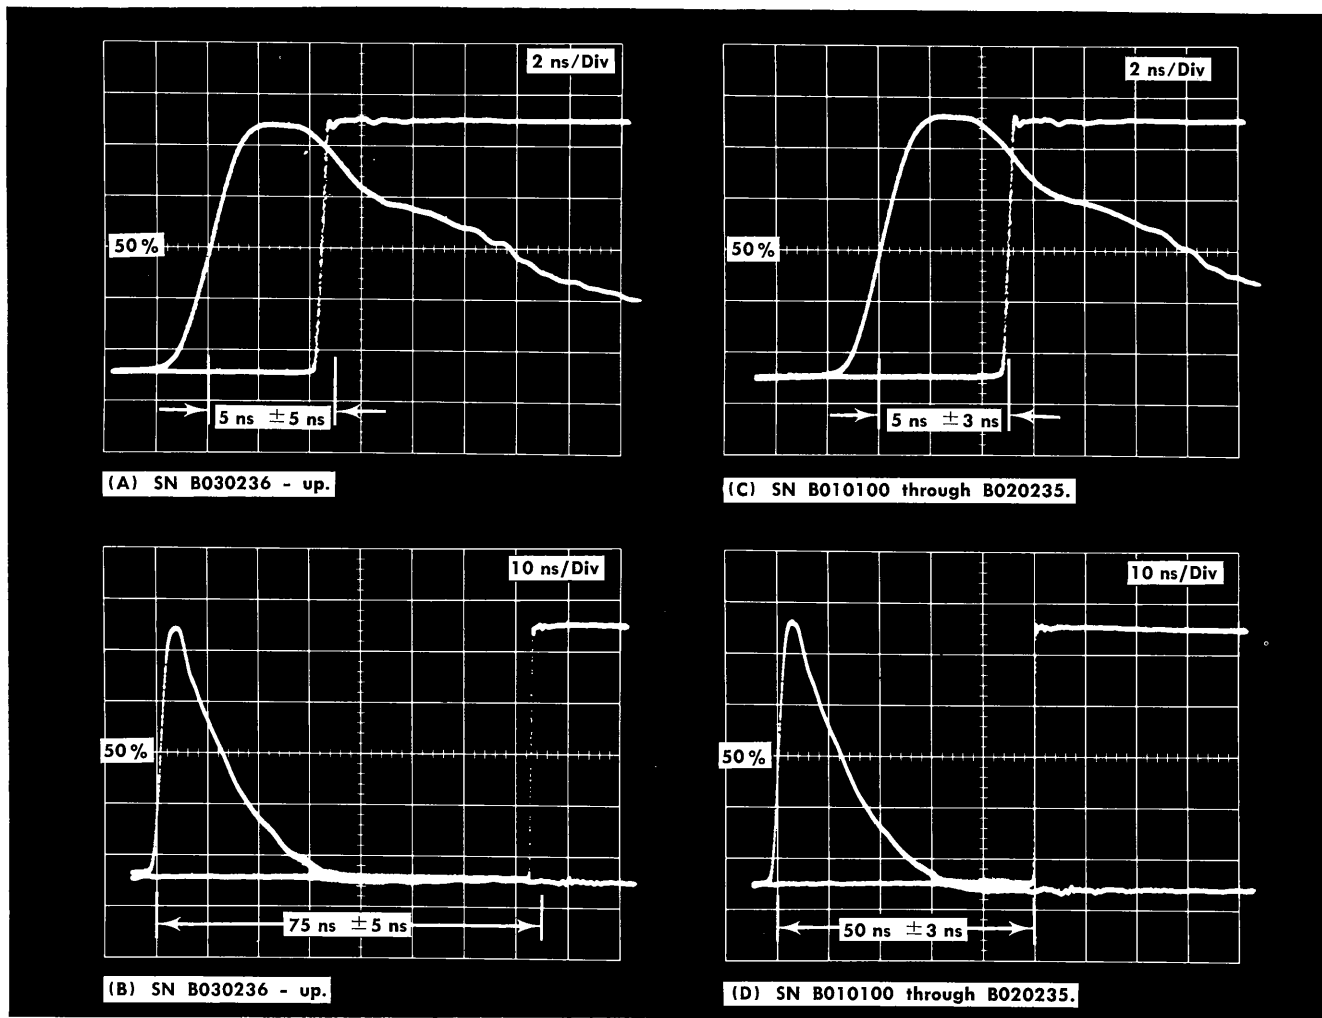

Fig. 6-27. Display when checking Lead Time tolerances.
- c. Reconnect the signal and adjust the Bias Balance control R123 on the Pulse Generator board (see Fig. 6-27 for
d. Adjust Snapoff Current R174 (see Fig. 6-27 for location) to obtain 5 ns between the Trigger and the Pulse display. Readjust the TD BIAS control as necessary to obtain a stable PULSE OUTPUT display.